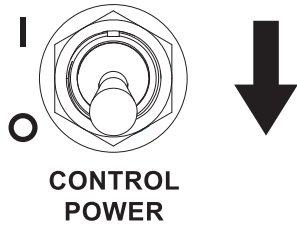

Figure 3-33. Controller Power—OFF (O)
- See **Figure 3-33**. Switch controller power switch to OFF (O).